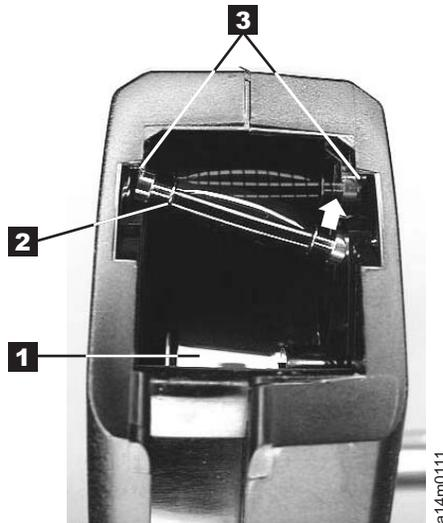

Figure 57. Placing the dislodged leader pin into the correct position.. The cartridge door is open, showing the leader pin out of position
1. Slide open the cartridge door (see **1** in Figure 57 on page 187) and locate the leader pin **2** (you may need to shake the cartridge gently to roll the pin toward the door).